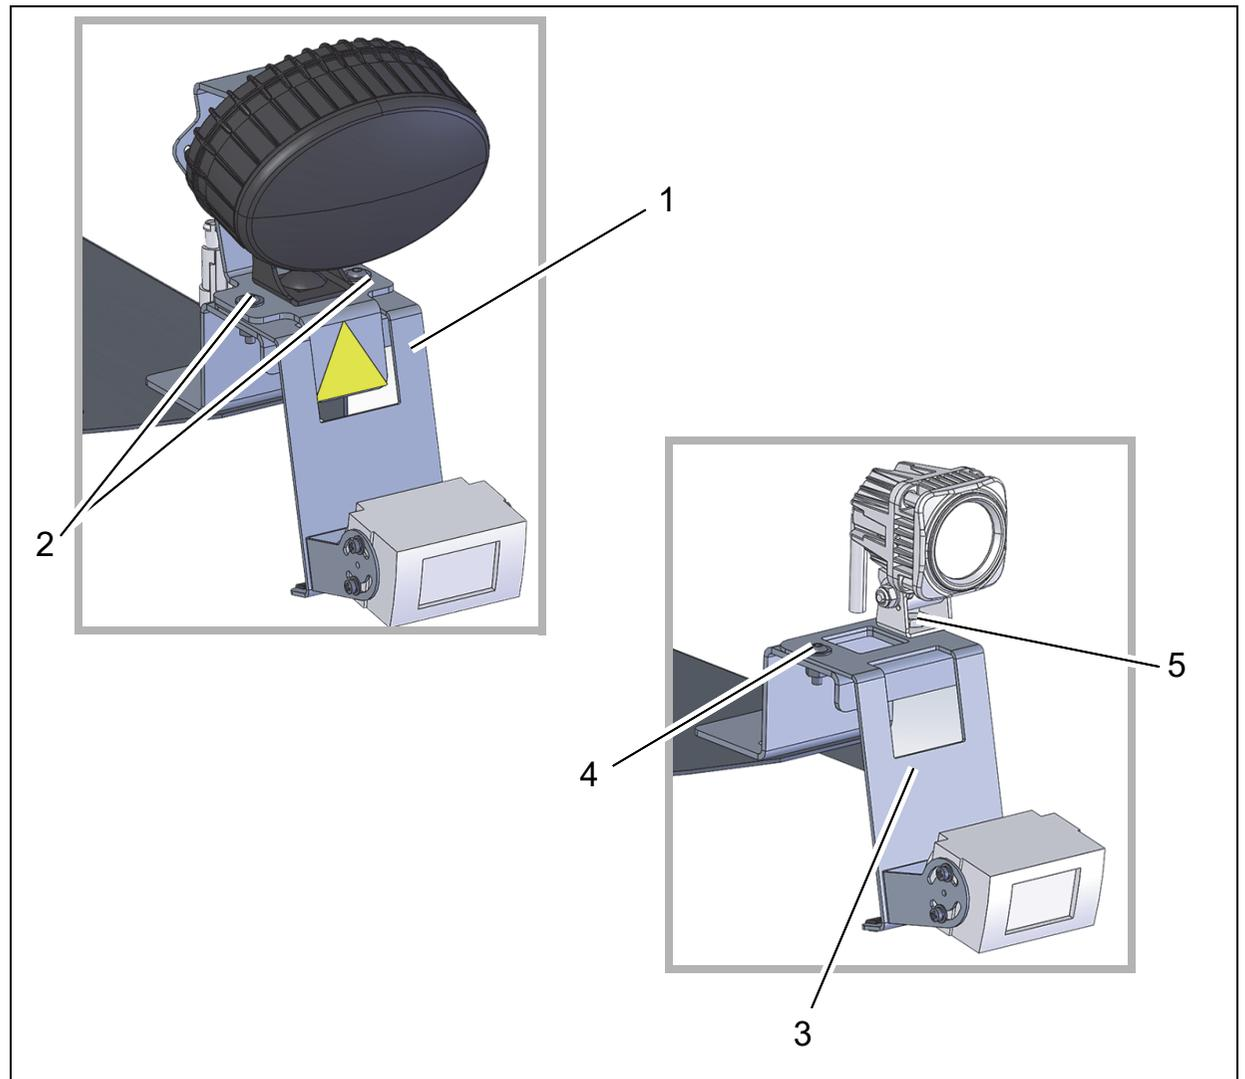

Fig. 5
Position the holder with the reversing camera on the options holder (Fig. 5/1), position the BlueSpot on top and attach them together using two M6x16 flanged button head bolts, two SKM 6 detent-edged washers and the M6 hexagon nuts (Fig. 5/2).
1. Position the holder with the reversing camera (Fig. 5/3) on the options holder and attach them together using one M6x16 flanged button head bolt, one SKM-6 detent-edged washer and one M6 hexagon nut (Fig. 5/4).
2. Position the right-hand LED working light on the reversing camera holder and attach it using the standard parts (Fig. 5/5).